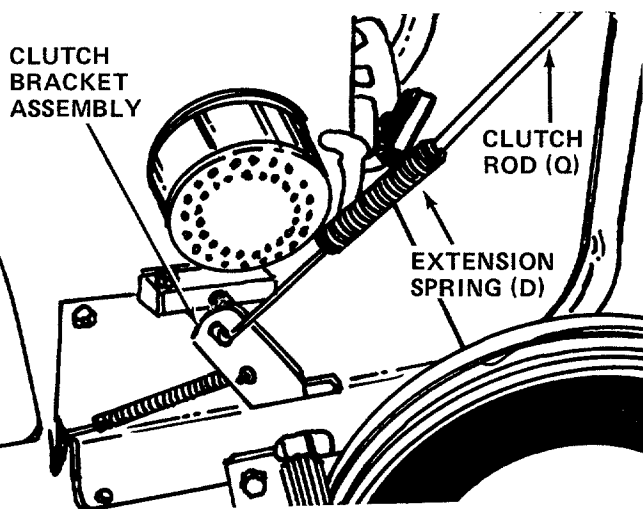

FIGURE 11
- Hook top (hooked end) of clutch rod into clutch grip. Hook spring into clutch bracket assembly. See figure 11. Spring should not have any slack. Adjust nut so that when the clutch grip is all the way up, there is no slack in the spring.
- Thread hex jam nut (M) onto clutch rod, and lock it against the lock nut (E).